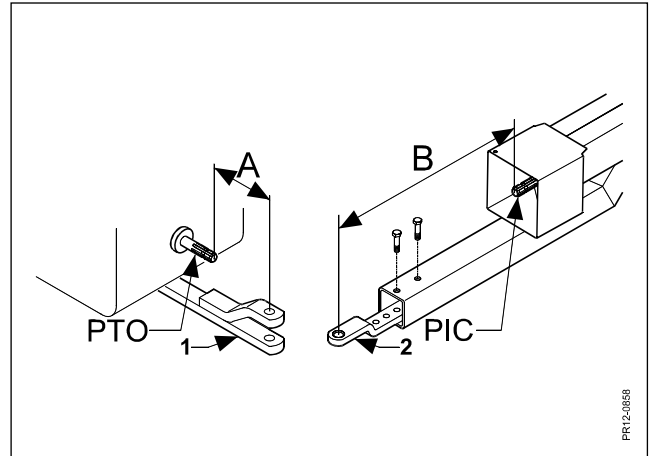

Fig. 2-8
- Fig. 2-8** Adjust the drawbar of the tractor (1), so that the distance "**A**" will be as small as possible. Adjust the drawbar of the machine (2), so that the distance "**B**" will be as large as possible. The drawbar of the machine (2) must be turned, so that the PTO shaft is as close to a horizontal position as possible. (NB: Fittings for drawbar **must** always be mounted with 2 bolts).